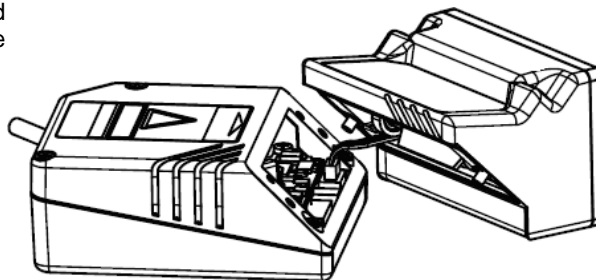

Figure 3
- 3) Bring the OM-VB14N close to the scanner and insert the cable into the power connector of the scanner (See Figure 3).